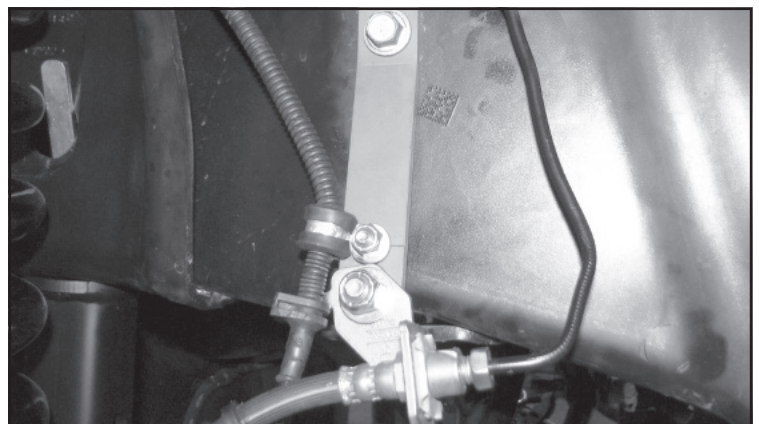

FIGURE 17 - STEP 22
22. **(PASSENGER SIDE)** Install FT30660 (Brake line bracket) to the factory brake line tab using the supplied 3/8" hardware (Use lower hole). Next, using the supplied rubber clamp and 1/4" hardware, attach the ABS line to the upper hole on the FT30660 bracket. Re attach to the frame using the factory hardware. Torque 3/8" & factory hardware to 52 ft-lbs. Torque 1/4" hardware to 14 ft-lbs. **SEE FIGURE 17**